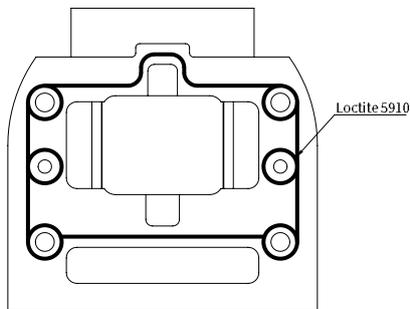

Fig. 13.26
- Seal the faces between the top housing and top mounting bracket (2175) using Loctite 5910 see Fig. 13.26